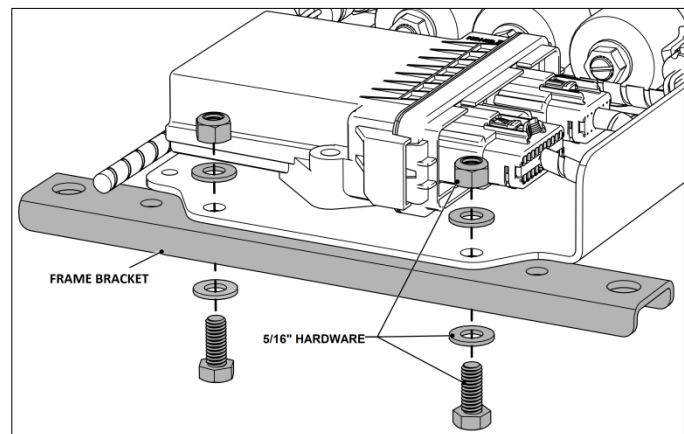

Figure 1B
- Fasten the control board to the two frame brackets using the supplied 5/16" cap screws, nuts and washers. Torque the hardware to 17 ft-lbs [23 N.m]. Refer to Figure 1B.
Mount the control board as high as possible on the frame rail and in the orientation shown in Figure 1B.